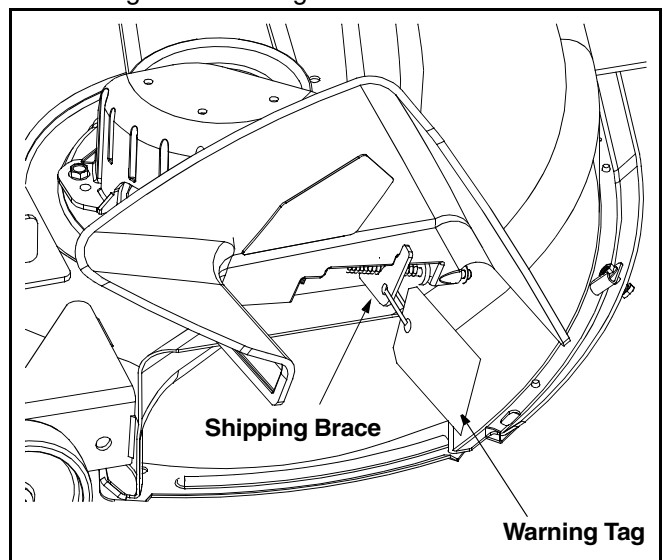

Figure 2
- On model V809H, locate the shipping brace and accompanying warning tag found on the right side of the mower, between the discharge chute and the cutting deck. See Figure 2.